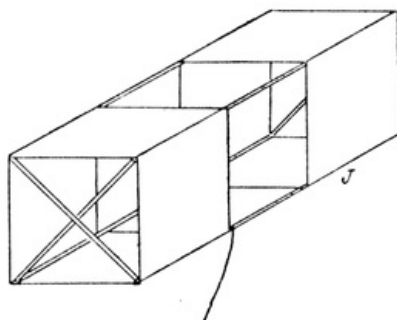

FIG. 469
**A Box Kite.** This is a very common form of kite and quite easy to make. Take four laths from 27 to 30 inches in length and four pieces about 13 inches in length. The smaller pieces are fastened together with nails and glue, as in Fig. 470 (a) and (b). To the ends of these the long pieces are nailed and glued, as in Fig. 470 (b). Mark off the long pieces into thirds and over the two end thirds sew strips of light material. Tie on the string as shown in Fig. 469. This kite is said to be an American invention.